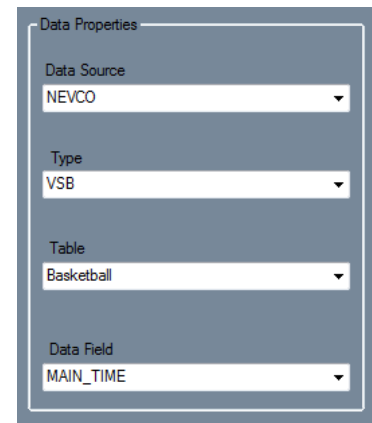

Figure 10-8
- iv. The CG Overlay should be checked that the correct values are being used. When adding a data item, there is an options window as seen in Figure 10-8. For StatCrew, ensure that the Data Source is StatCrew and that the rest of the fields are selected so that the data you are trying display is correct. Keep in mind that if the Data Reader is setup to read a file, that file needs to have the Data Field's information, otherwise it will not show up. If using FinishLynx, HyTek, or Nevco's MPC, the Data Source should be set to NEVCO. After this, the Type must be selected accordingly. The type "VSB" is for using a Nevco MPC. The last two fields are now what you are trying to display on the VSB. Keep in mind that if using the Data Field of PlayerH or PlayerV, the player number must be set in the lower left corner of the CG Overlay Creator user interface.